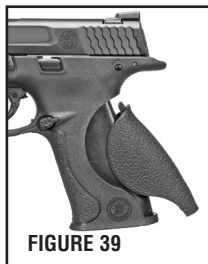

FIGURE 39
- Take the current insert off the handgun and replace it with the appropriate insert (FIGURE 39).